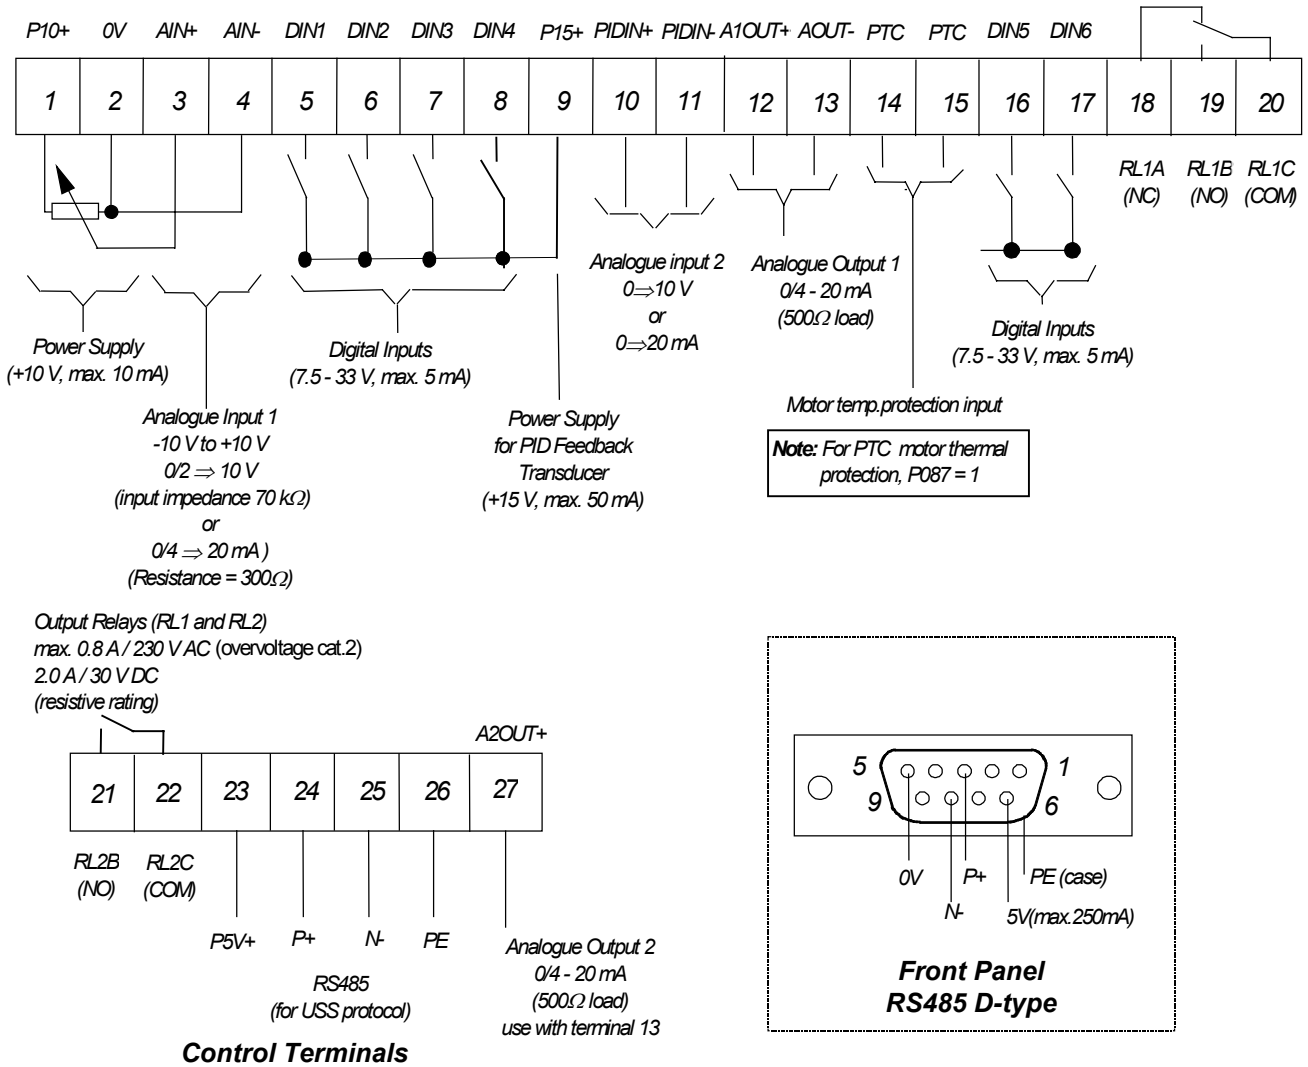

Figure 3.2.2: Control Connections - MIDIMASTER Vector
- (1) Connect control terminal 9 to terminal 5 via a simple on/off switch. This sets up the motor for clockwise rotation (default).
- (2) Connect a 4.7 k Ω potentiometer to the control terminals as shown in Figures 2.2.4 and 2.2.6 (MMV) (Figures 3.2.2 and 3.2.4 (MDV)) or connect pin 2 (0V) to pin 4 and a 0 - 10 V signal between pin 2 (0V) and pin 3 (AIN+).
- (3) Set the Analogue Input 1 Configuration DIP selector switches 1, 2 and 3 for voltage (V) input. (see *Figure 3.2.2-3.2.4, Section 4.1.2*)
- (4) Secure all covers to the unit and then apply mains power to the inverter. Set parameter P009 to 002 or 003 to enable all parameters to be adjusted.
- (5) Set parameter P006 to 001 to specify analogue setpoint.
- (6) Set parameter P007 to 000 to specify digital input and disable the front panel controls.
- (7) Set parameters P021 and P022 to specify the minimum and maximum output frequency settings.